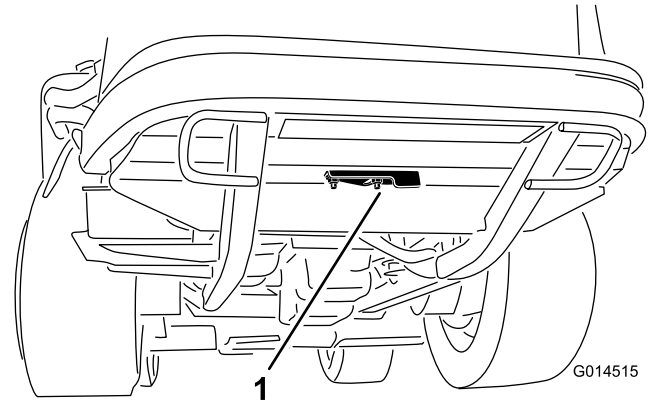

Figure 82
2. Loosen the flange nut securing the clean-out cover to the underside of the rear frame (Figure 82). Rotate the cover to the side to expose the clean-out hole in the frame.